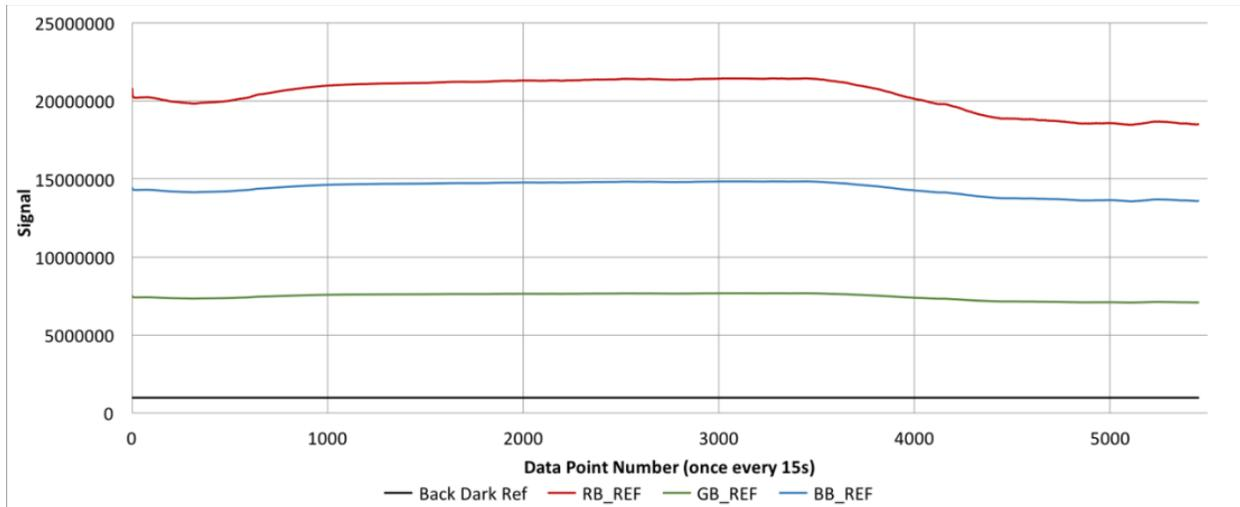

Figure 2: Back scatter dark reference signal compared to back scatter reference signal at each wavelength
- Dark reference sensor values are significantly lower than reference measurements at all wavelengths. Similar to PMT signals, reference sensor signals vary between nephelometers. An example is shown below in Figure 2.